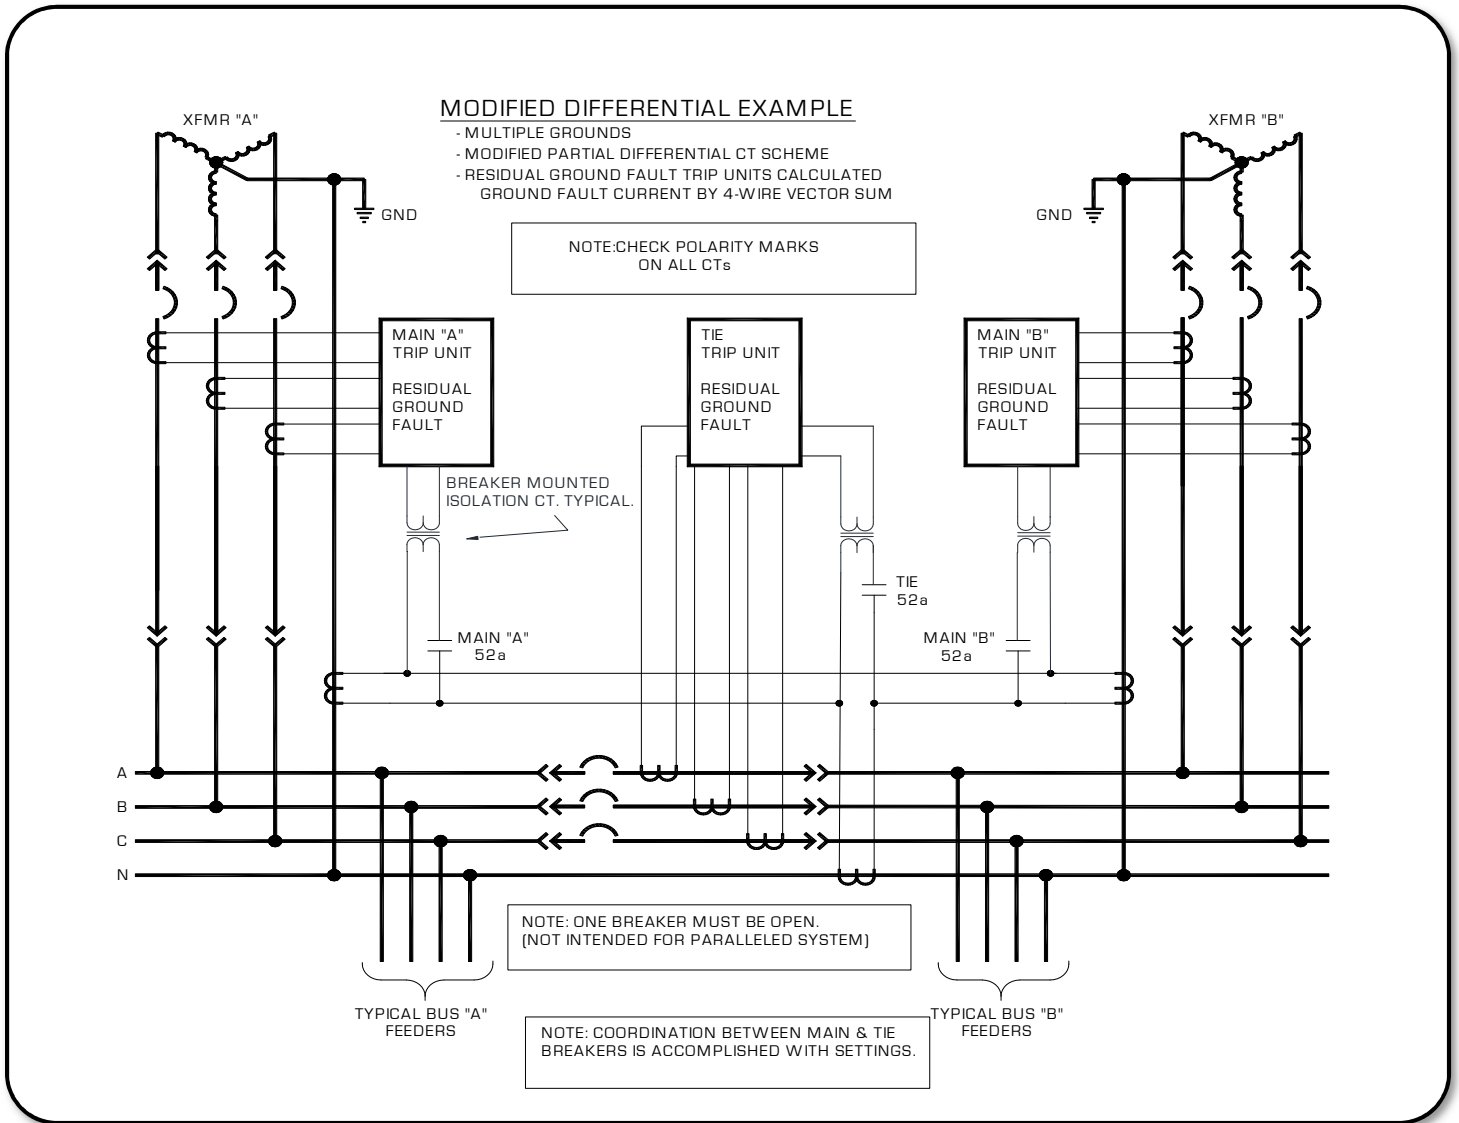

Figure 3: Modified Differential Example
- **Figure 3: Modified Differential** with Multiple Grounds
- Residual GF (GF Current is calculated). This is the standard GF method in URC trip units unless determined otherwise. See **Figure 3**, showing Residual GF trip units implemented in a Modified Differential GF Scheme.
- Applications with **Multiple Grounds** that match **Figure 3** require **Residual** Ground Fault trip units for Mains & Ties.